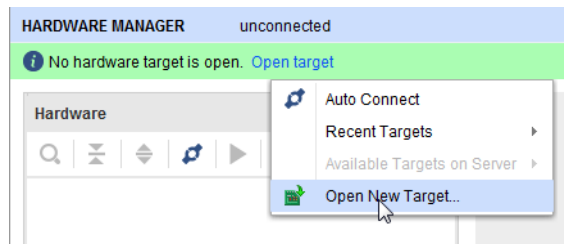

Figure 4-2: Using the User Assistance Bar to Open a Hardware Target
- Use the **Open Target ->Recent targets** or **Open Target -> Open New Target** selection on the green user assistance banner across the top of the **Hardware Manager** window to open recent or new hardware targets, respectively (see Figure 4-2).